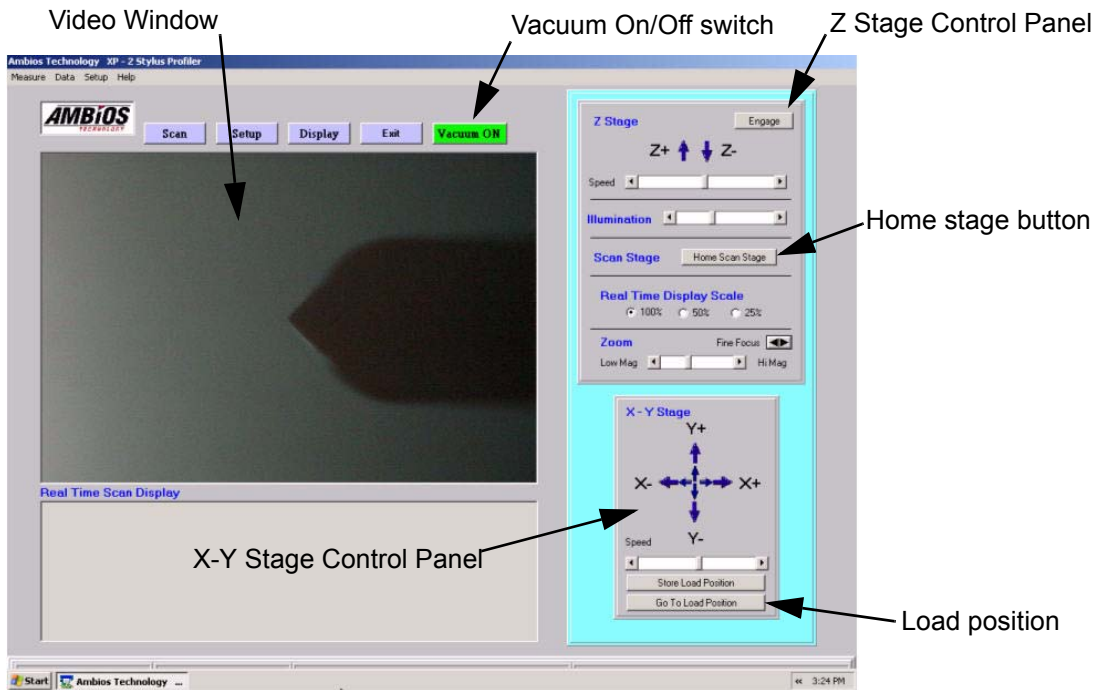
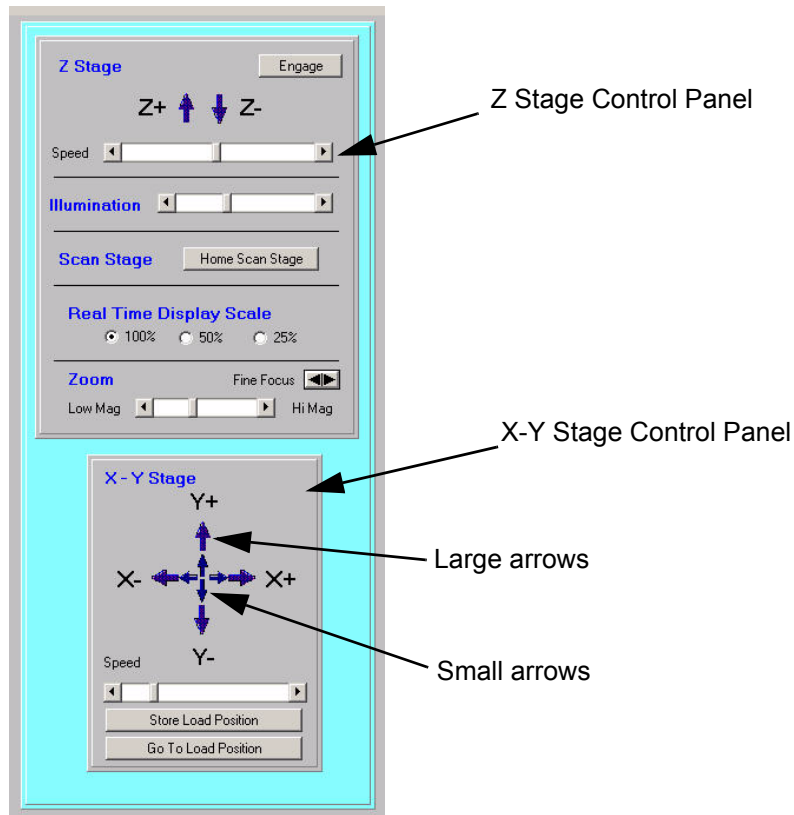

Figure 4.1: The *Main* software screen for the XP-2.
Figure 4.2: Control panel for the Z stage and X-Y stage. The arrow directions correspond with the video display frame of reference.
1. If the system is not in the *Home* position, **Left Click** on the *Go to Load Position* button located on the X-Y Stage control panel (see Figure 4.1).
4. (Optional) Engage the vacuum switch, **Left Click** on the Vacuum control button located on the *Main* software screen above the *Video* window, as shown in Figure 4.1. Users may find the vacuum unnecessary for their sample and can skip this step.
The Ambios Technology XP measurement head contains a high resolution video camera. Once the sample has been loaded and the stage moved beneath the measurement head, the sample is viewed in the video window of the *Main* software screen as shown in Figure 4.1 above. Using the Video window, the user positions the sample in an appropriate position to start a scan. The sample motion consists of two parts:
The *Video* Window and Stage Control Panels are located on the *Main* software screen as shown in Figure 4.1.
Figure 4.2 shows the control panel for the X-Y stage. The X-Y Stage control consists of four arrows, representing the right and left X motion of the stage and the forward and back Y motion of the stage. Each arrow direction also has a small inner arrow that is 50% of the large arrow speed. The speed of the X-Y motion is controlled by a slider bar located directly below the arrow controls. The arrow direction corresponds with the video display frame of reference.
- **Left Click** on the slider bar arrows and holding down the button also slides the speed control bar in the corresponding direction (see Figure 4.2).
1. The stylus can be raised or lowered at any time by using the mouse and right clicking on the up or down arrows located in the Z stage control panel (see Figure 4.2). The Z stage will move in the chosen direction as long as the mouse button is pushed down on the up/down arrow.
2. The speed of the stage can be adjusted using the slider bar located on the Z stage control panel directly below the up/down arrows (see Figure 4.2). To move the slider control, **Right Click** and hold the slider control and move the mouse to the right or left then release the mouse button. The right direction moves the stage faster and moving the slider to the left moves the stage slower.
There are two methods for engaging the stylus on the sample surface, using the *Engage* button located on the Z stage control panel (see Figure 4.2), and pressing the *Scan* button in the *Main* software screen above the video window (see Figure 4.1).
- From the Main menu screen, **Left Click** on the *Setup* button located directly above the Video window. (See Figure 4.1).